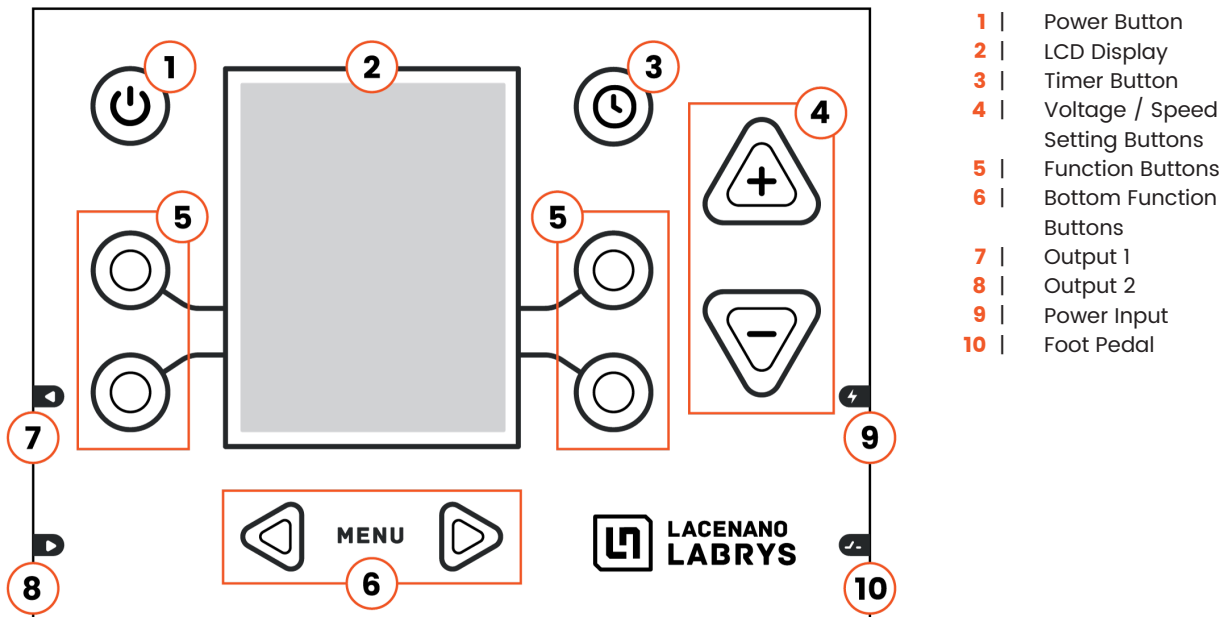
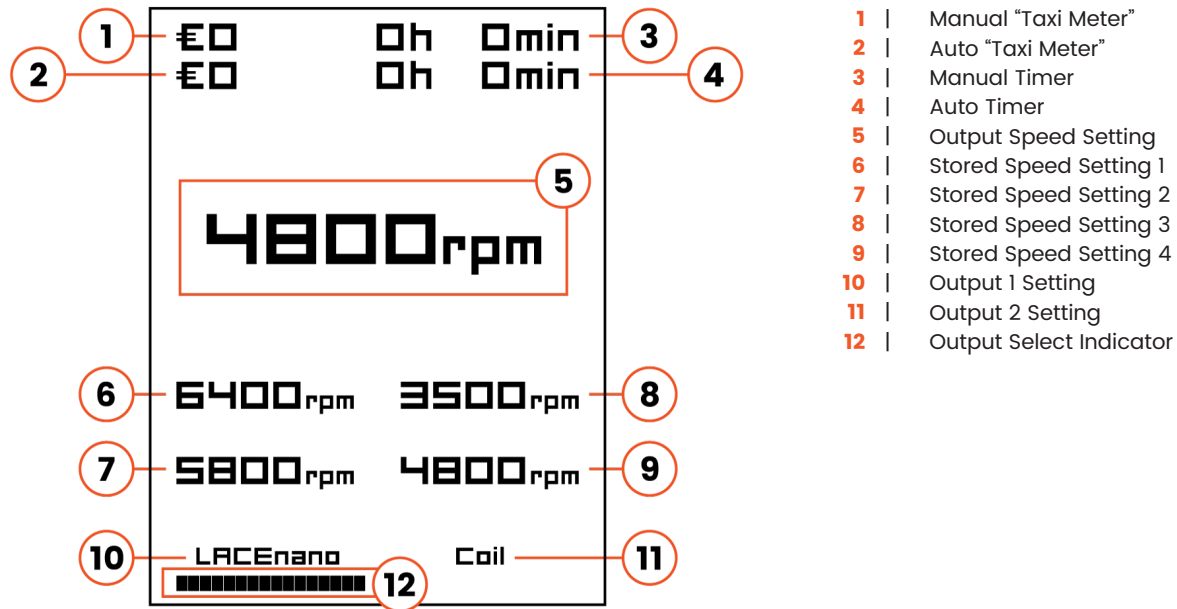

Figure 1 | Front Panel
Figure 2 | Display (LACEnano)
To start using your LABRYS power supply connect supplied wall-wart *1 to DC-IN  (figure 1, no. 9) and your electrical outlet *2. If you are using external foot pedal, connect it to lower right input marked with  (figure 1, no. 10).
Output 1 is marked with  (figure 1, no. 7) and represent the left pointing arrow in bottom function buttons (figure 1, no. 6). Output 2 is marked with  or a right pointing arrow in bottom function buttons. Connect your machine to either of the outputs and select used output with bottom function buttons (figure 1, no. 6). For more information about output select see chapter 7.
- 1 **Manual:** (Figure 2, no. 1) calculates price from manual timer and hourly rate set in menu
- 2 **Auto:** (Figure 2, no. 2) calculates price from auto timer and hourly rate set in menu
- 1 **Manual:** (Figure 2, no. 3) start/stop timer with "timer button" (Figure 1, no. 3)
- 2 **Auto:** (Figure 2, no. 4) auto timer start and stop (turns on and off with the machine)
Press or hold “voltage/speed setting buttons” (Figure 1, no. 4) to change output voltage/speed. Save current output setting by holding corresponding function button (Figure 1, no. 5).
Select stored output settings by **pressing** corresponding function button (Figure 1, no. 5).
Select between **output 1** or **output 2** by pressing “bottom function buttons” (Figure 1, no. 6). Press left for output 1 or right for output 2. Black bar (Figure 2, no. 12) indicates the selected output.
To **change output mode between LACEnano, Rotary or Coil** (Figure 2, no. 10/11) hold corresponding “bottom function button” (Figure 1, no. 6) until arrows appear next to the output mode. Now select output mode by pressing “bottom function button” (Figure 1, no. 6).
To start your machine you can either **use your footswitch** or **press** the “power button” shortly (Figure 1, no. 1). If the “power button” is not working enable this function in the menu (**chapter 10**).
When output is ON the corresponding output select indicator (Figure 2, no. 12) **turns green**. It turns white when it is OFF.
(Figure 1, no. 3)
(Figure 1, no. 5)
(Figure 1, no. 6)
To enter settings menu **press and hold both** “bottom function buttons” (Figure 1, no. 6) until the menu appears (Figure 4).
Use “function buttons” (Figure 1, no. 5) to move up and down the menu and “bottom function buttons” (Figure 1, no. 6) to change corresponding setting.
When you finish editing your settings press “timer button” (Figure 1, no. 3) to **save end exit** settings menu.
If a LACEnano machine is plugged in but rotary or coil mode is selected on your power supply there will be **a beeping sound** and the **“output select indicator”** (Figure 2, no. 12) will change color to red. If this happens check if your machine is correctly plugged in and that your output select settings correspond to the machine you are using.
- 4 Press any of the two **“bottom function buttons”** (Figure 1, no. 6)